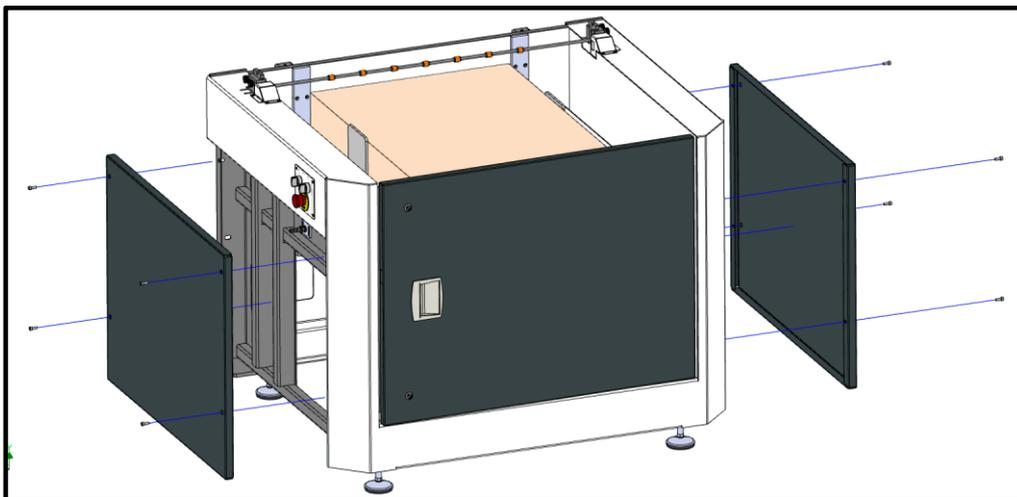
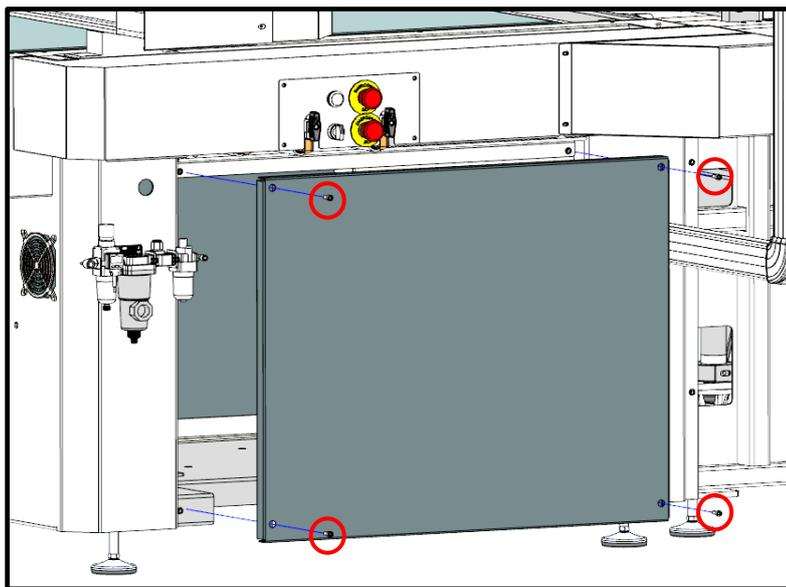

Figure 5-17
Figure 5-25
- Close the machine panel and the loader panels removed previously (Figure 5-25 and Figure 5-17).
- Open the machine's front door (Figure 5-25)
- Remove the machine front panel (Figure 5-25)